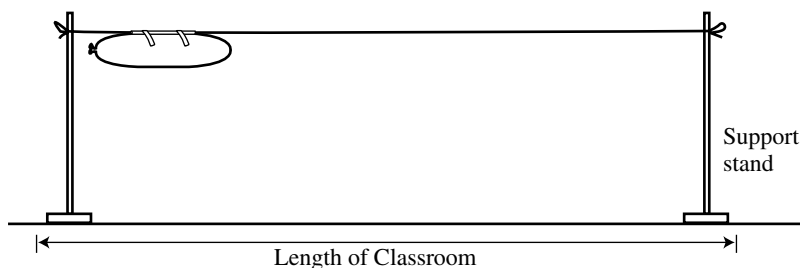

Figure 3.
5. Extend the fishing line to the opposite end of the classroom. Tie the end of the fishing line to another support stand so that the line is taut and parallel to the floor (see Figure 3).